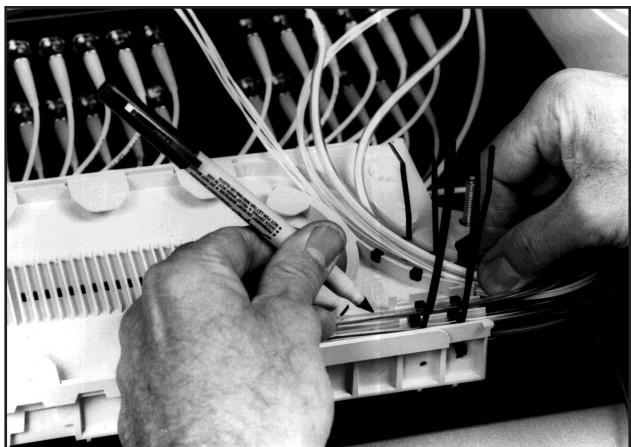

FIGURE 9 - MARK GROUPS IN SPLICE TRAY
- 8.05** Lay the Pigtail Assemblies within the wide entry slot of the Splice Trays and the provider fibers within the first two narrow slots and mark the groups slightly beyond the tie down locations.(Figure 9, next page)